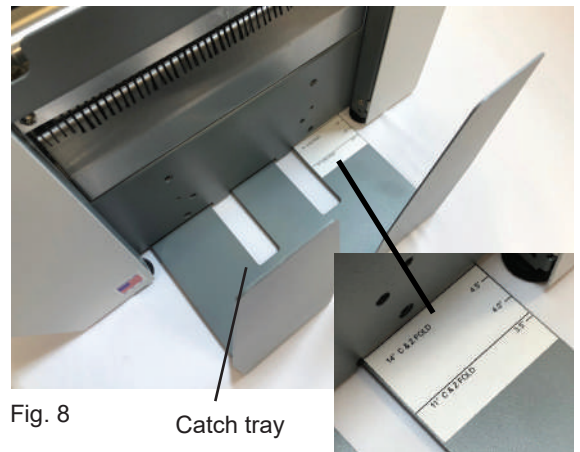

Fig. 8
7. Adjust the outfeed catch tray to accommodate the form size being processed. Slide it in or out until to align the mark matching the form size (Fig. 8).